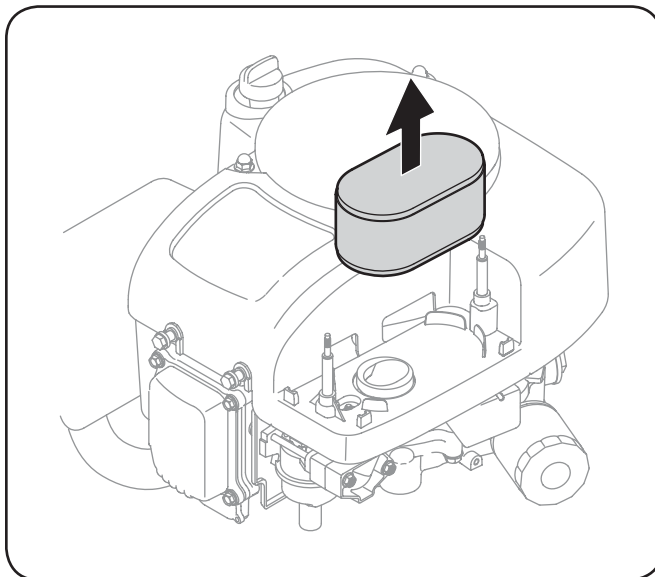

Figure 6-5
2. Remove the air filter. See Fig. 6-5.